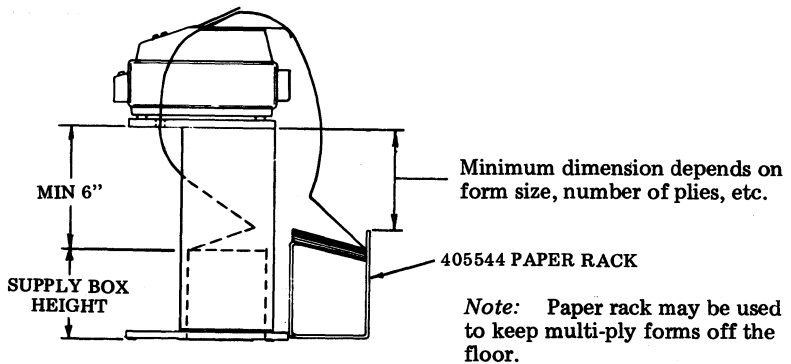

Fig. 4—Height Requirements for Customer-Provided Tables
- (b) Sufficient height of mounting to allow paper insertion and accumulation (Fig. 4).
(a) Loosen nut at each end of paper guide (Fig. 4).